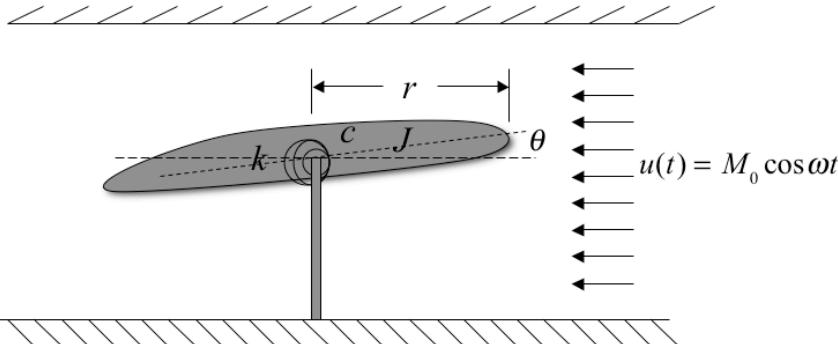

Figure P2.31 Model of an airfoil in a wind tunnel including the effects of damping.
- 2.31** Consider the system of Problem 2.15, repeated here as Figure P2.31 with the effects of damping indicated. The physical constants are $J = 25 \text{ kg m}^2$, $k = 2000 \text{ N/m}$, and the applied moment is 5 Nm at 1.432 Hz acting through the distance $r = 0.5 \text{ m}$. Compute the magnitude of the steady state response if the measured damping ratio of the spring system is $\zeta = 0.01$. Compare this to the response for the case where the damping is not modeled ($\zeta = 0$).